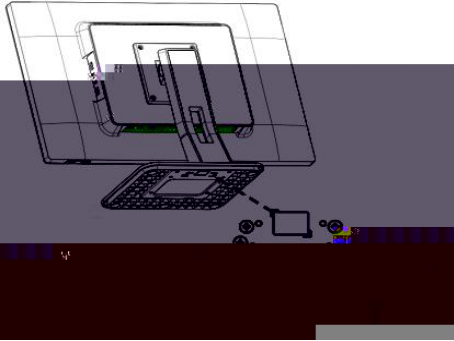

Figure 3 Installing the Base
2. Align the screw holes on the base with the screw holes on the Rain200Pro-Exam bracket, and tighten the M4 screws clockwise with a Phillips screwdriver, as shown in Figure 3.